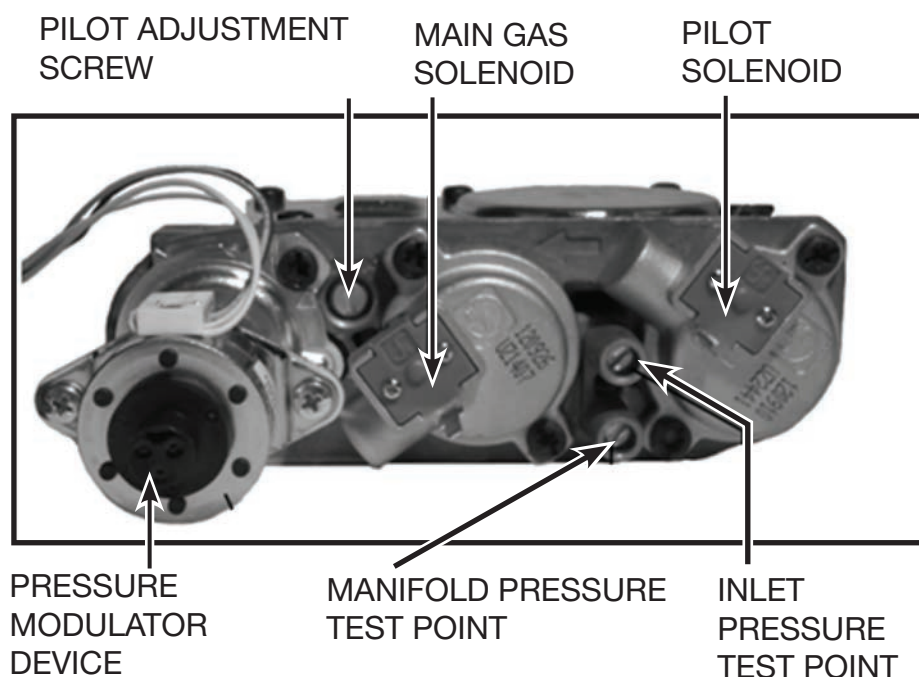

Figure 33: Gas control valve.
2. Locate the inlet and outlet test points on the valve which can be seen in (Figure 33). After locating test ports loosen the screws within the ports using a flat-tip screwdriver.
The pilot flame level can be adjusted by turning the adjustment screw, using a flat-tip screwdriver, seen on the valve in (Figure 33).